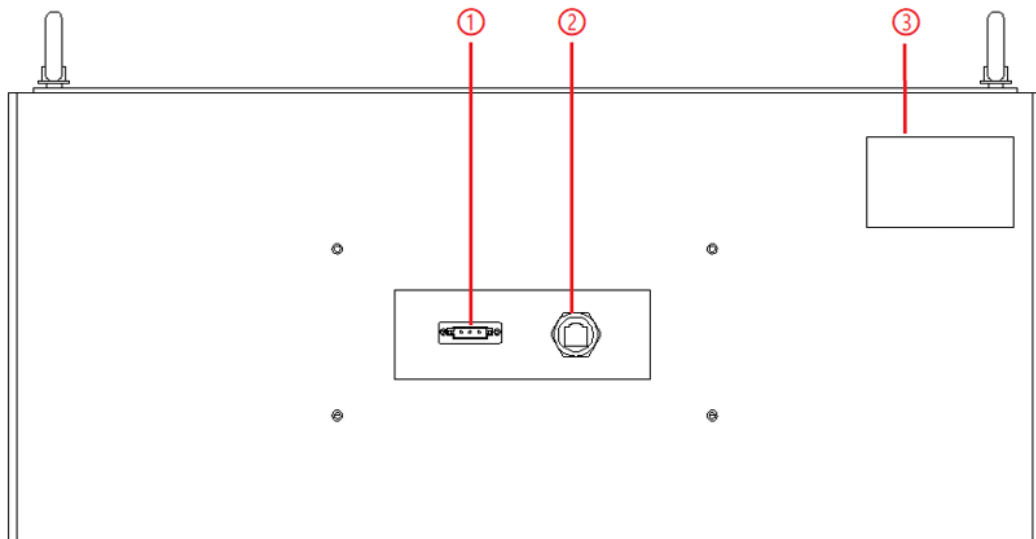

Figure 1-9 Rear panel
The RS485 interface is located on the rear panel of the power supply (Figure 1-9①).